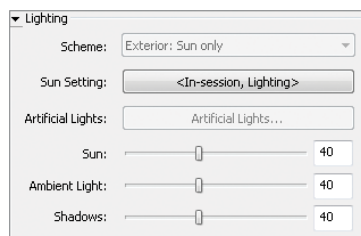

FIGURE 9.10 Lighting sliders
3. Expand the Lighting option, and adjust the Shadow, Sun, and Ambient Light slider controls. The Sun and Ambient Light controls make an impact when your visual style is set to Shaded or Realistic. Set each of these values to 40, and click OK to exit the GDO dialog (Figure 9.10).